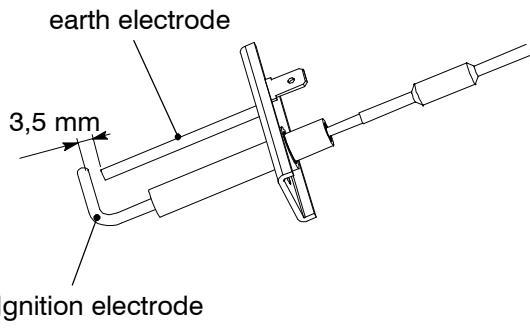

Fig. 18.4
- 2 Check for the correct distance between the metallic edges of the ignition electrode (see Fig. 18.4).